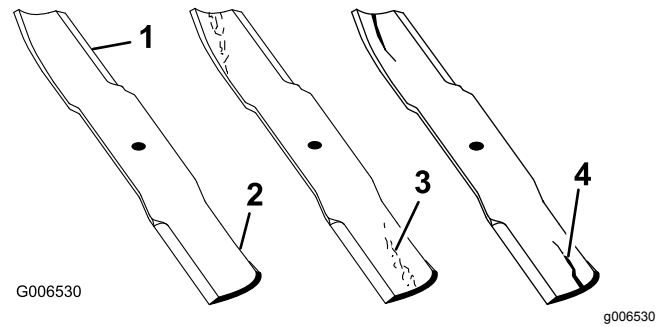

Figure 44
1. Inspect the cutting edges (Figure 44).
4. If you notice any cracks, wear, or a slot forming in this area, immediately install a new blade (Figure 44).